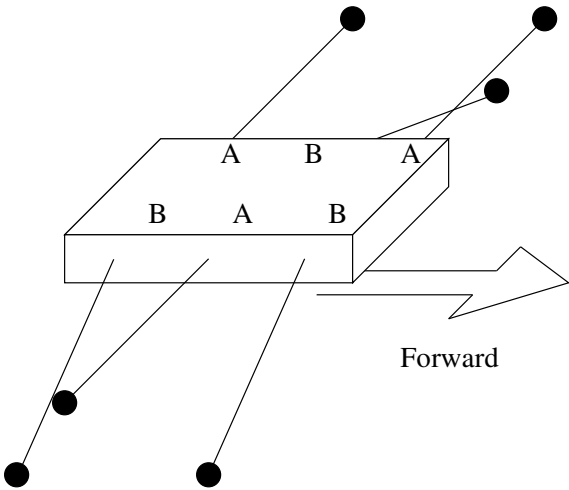

Figure 7.4: A hexapod walking robot.
9. (16 pts.) Build a FSM which make the hexapod robot shown in Figure 7.4 walk forward.
The hexapod robot walks by moving three legs in unison; see *A* and *B* in Figure 7.4. The movements of *A* and *B* are coordinated so that, at times, the hexapod is balanced on three legs. A portion of the walking gait is shown in Figure 7.5; note that in this